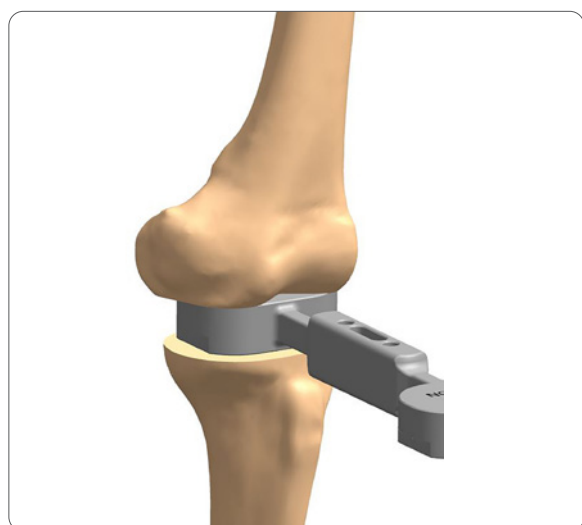

Figure 19
1. Insert the Extension Spacer Block into the extension space. The 10mm end of the Extension Spacer Block should easily insert into the extension gap. (**Figure 19**).